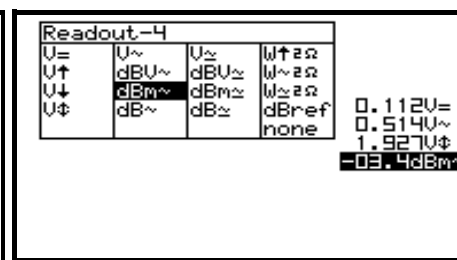

Fig 20
7. Pressing the 'meter'-key selects the fourth readout location. (Fig. 20)
8. Press the cursorkeys to highlight the desired readout function for meter4 readout. (Fig. 20)